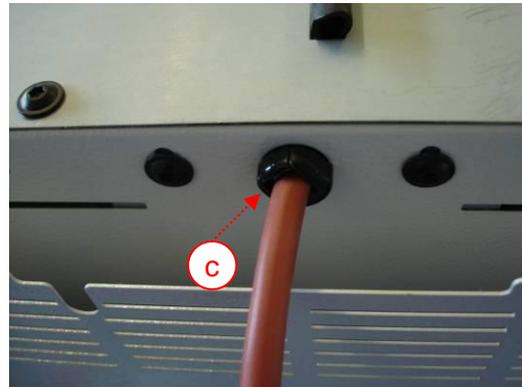

Fig. 31 – strain relief,
- Remove strain relief (fig. 31 c) and remove heating wire completely.
- Reinstall the strain relief (fig. 31 c)